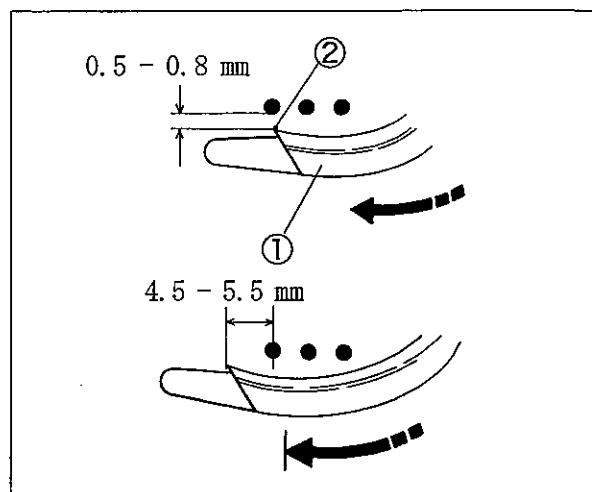

Fig. 45
- (2) Make the clearance between the left needle and the hook ② of the spreader ① to 0.5 - 0.8 mm. (Fig. 45)
- (3) Make the clearance between the center of the left needle and the hook ② to 4.5 - 5.5 mm when the spreader ① is at the extreme left. Then tighten the screw ④ securely. (Figs. 45 and 47)